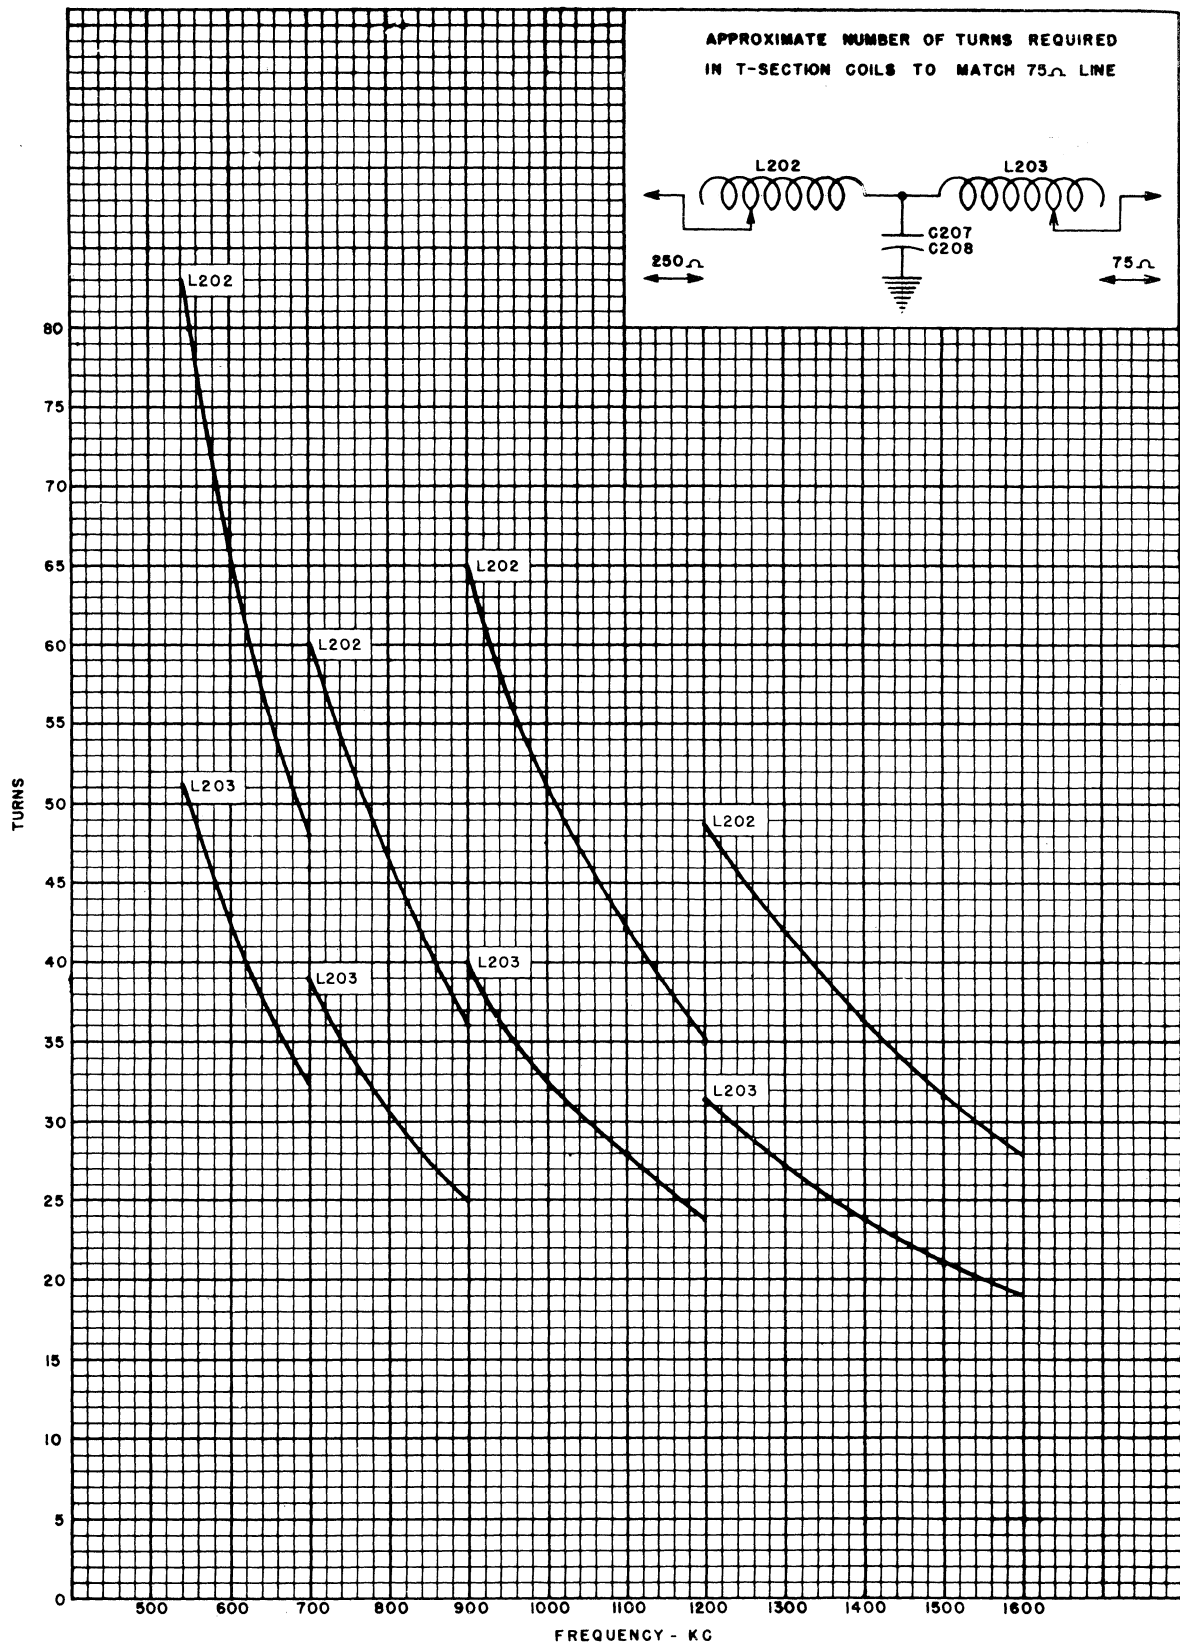

Figure 2-13 Output T Section Inductance Chart
(1) Make approximate settings of the output network by referring to tuning chart figure 2-13.
(2) Close the switch, S201, located in the plate lead of the final amplifier tubes.
(3) Rotate the TUNE METER SWITCH to the FINAL TUNE position.
(4) Rotate the POWER switch to the HIGH position.
(5) Pull the PLATE start-stop control.
(6) Operate the TUNING control. Tune for minimum plate current as indicated on meter M305. If the point of resonance cannot be reached, adjust the tap on the plate tank inductor, L201 until resonance is established.
(i) Loading Adjustments. - All inductor tap adjustments of the output network have been made for the frequency upon which the transmitter is to operate, in accordance with the curves in figure 2-13, so that only slight adjustment of the inductor taps should be necessary. If the load impedance is higher than 75 ohms, the output coil will require more inductance than that indicated by the graph. If the load impedance is less than 75 ohms, the reverse procedure should be followed.